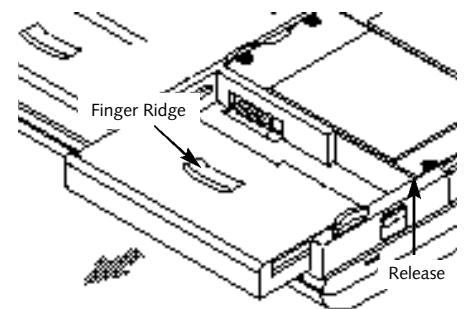

Figure 4-7 Removing the Battery Pack
3. Slide the Battery Eject Button on the left side of your notebook toward the bottom of your notebook (Figure 4-7).